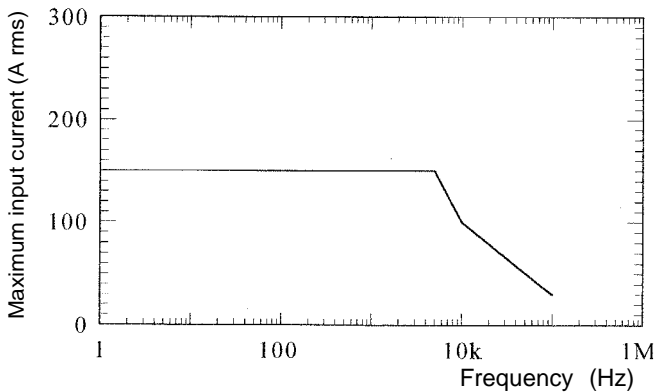

Figure 14 9275 Maximum Input Range
- ◆ Continuous maximum 150 A (see Figure 14)